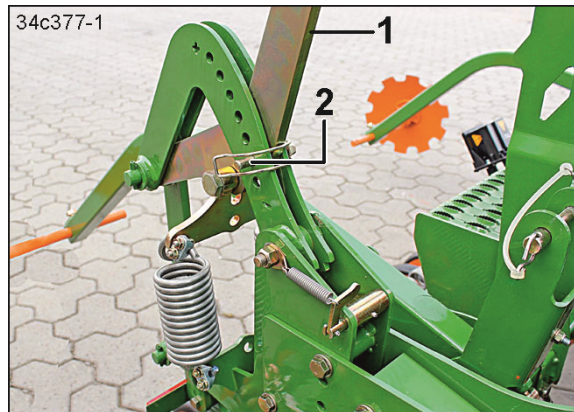

Fig. 193
2. Briefly pull on the lever (Fig. 193/1) and remove the safety pin for the tube (Fig. 193/2).